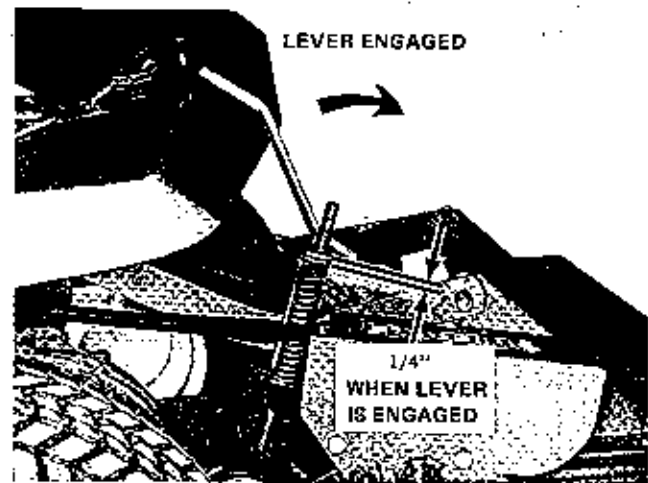

FIGURE 7
5. Check the distance between the set collar and rod guide. Only enough belt tension is necessary so the revitalizer will drive without slipping. Excess tension will cause rapid wear of belts and idler pulley bearings. (See Figure 7)